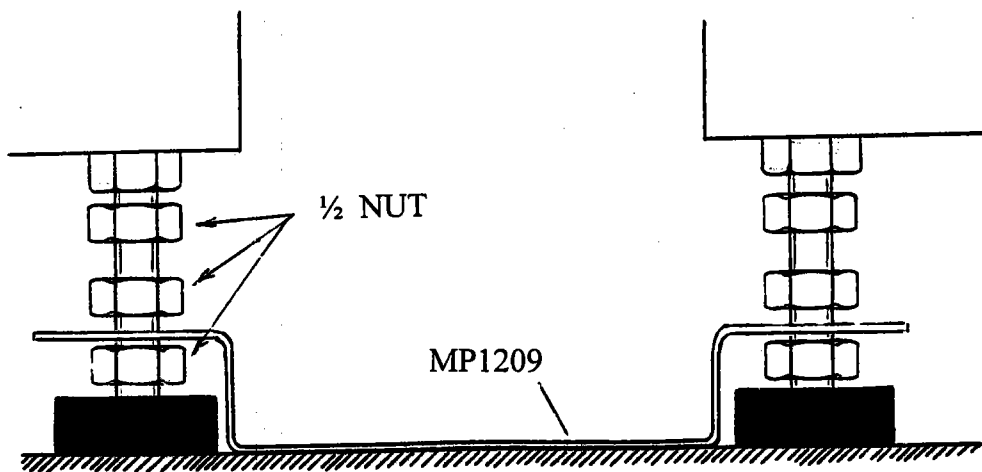

Fig. 6 Tie Bracket Fixings
- Step 6. Fit the two Tie Brackets MP1209 to the inside front and rear leg adjusters. Loosely retain by closing up the 2 half nuts on the 4 inside Leg Adjusters. See Fig. 6